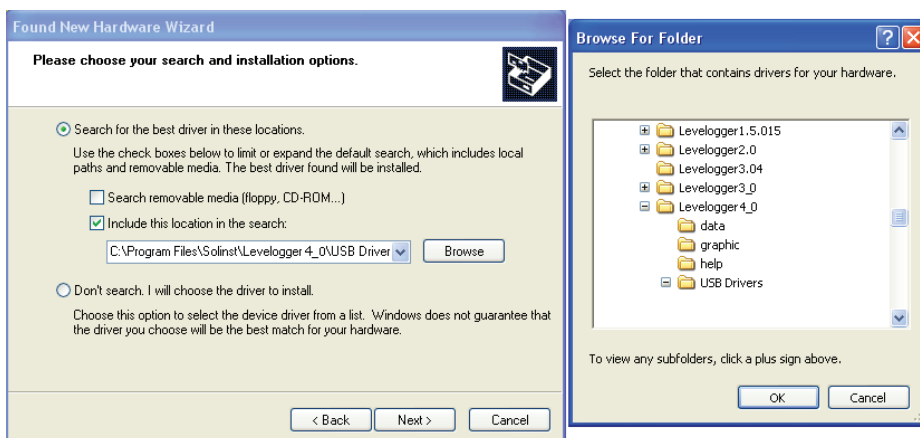

Figure 4-2 Found New Hardware Window and Figure 4-3 Browse for Folder Window
- 4) Select the installation option, 'Include this location in the search' (Figure 4-2), then click the 'Browse' Button to search for the appropriate directory: